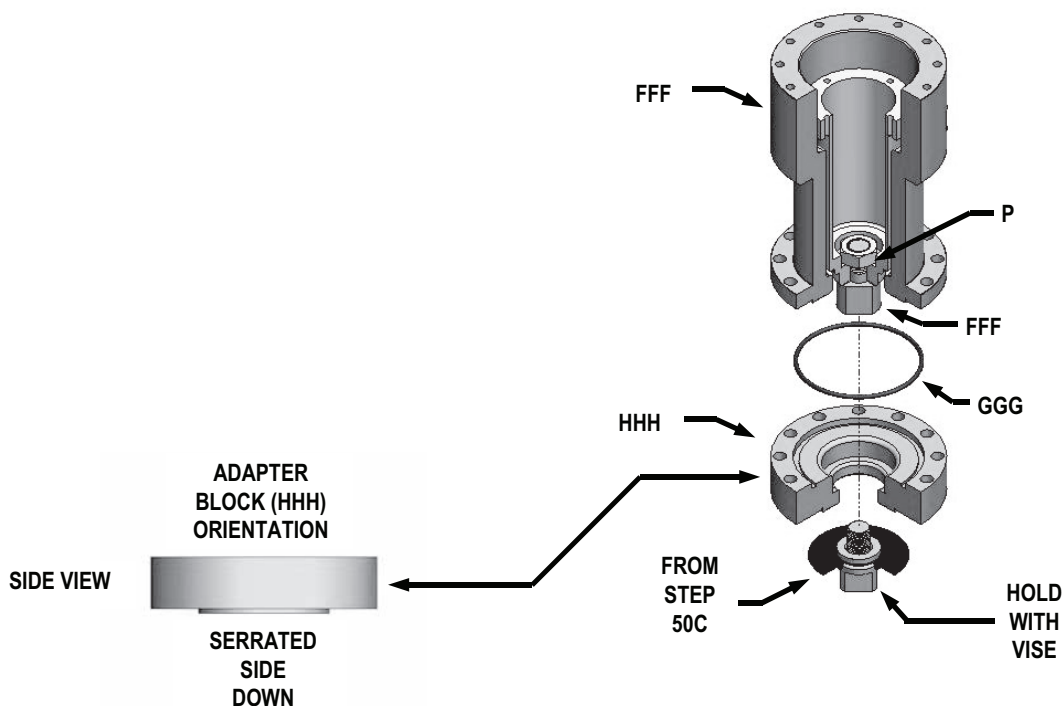

Figure 36
D. Insert a –145 O-Ring (GGG) into the Bottom Spacer (HHH) as shown in Figure 36. Thread the diaphragm assembly created in Step 50C into the Thread Extension (FFF). The assembly must be tightened further by holding the diaphragm assembly in a vise while applying torque to the NUT (P). Torque to 180-220 in.-lbs. Move to Step 52.